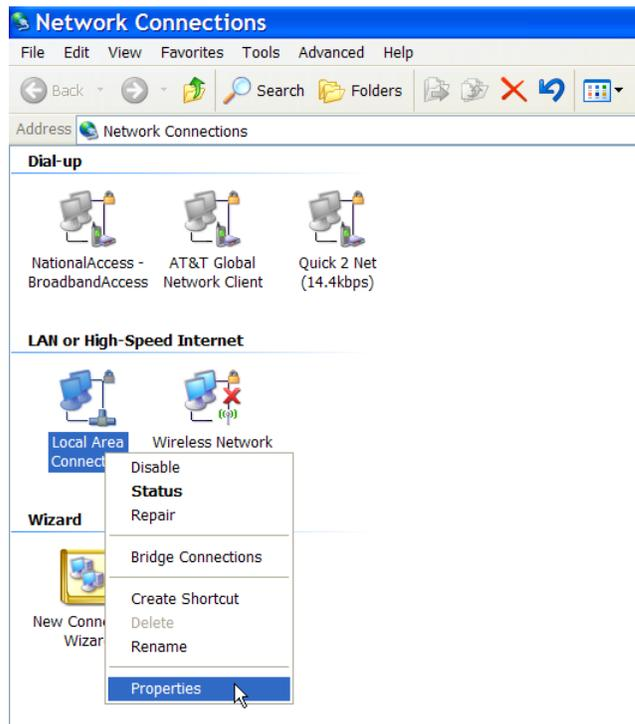

Figure 5. Accessing Local Area Connection - Properties
- (4) From the Network Connections window, right-Click on **Local Area Connection** then select **Properties** from the pop-up window(Figure 5).